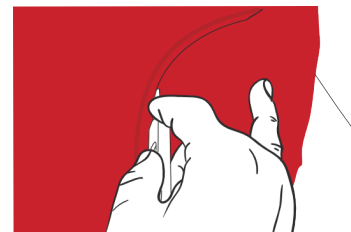

Figure 35
- › For the cut, the cutter blade must be placed against the edge of the adjacent part. When cutting, make sure you always go along the same line as the cut with the blade is inclined towards the outside. (FIG. 35)